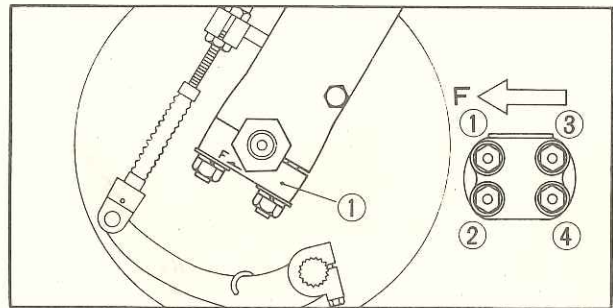

Fig. 4-14 (1) Axle holder
(2) Speedometer gearbox
- Face "F" mark of axle holder to front and tighten front nut first according to numerical order in Fig. 4-14.